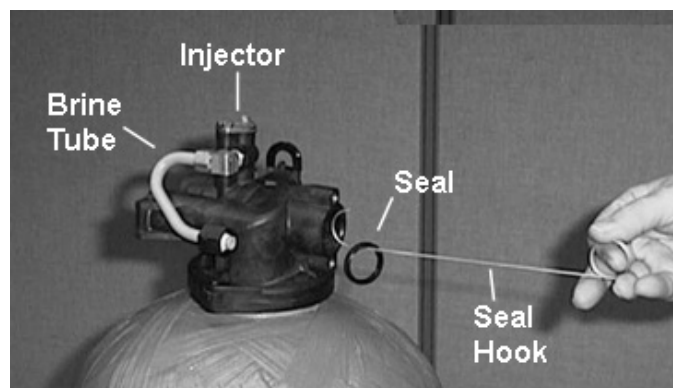

FIGURE 7
6. Remove the cap screw (N) from the back plate (N) and remove the back plate (N) from the valve (N). (See Figure 7.)